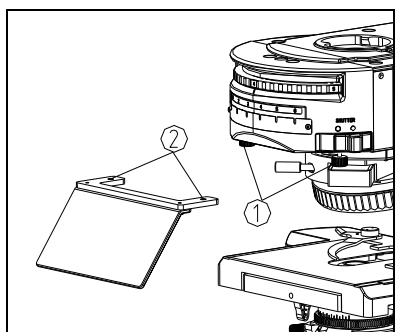

Fig.32
- (1) Take off the lock-screw (1) on fluorescence illuminator. (See Fig. 32)
- (2) Match the hole (2) on blinkers board to the hole on lock-screw (1) and lock the screw.